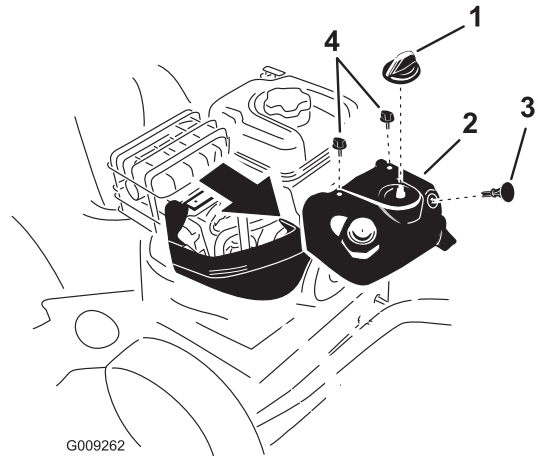

Figure 47
Note: To access the spark plug, you must first remove the upper snow hood (Figure 47).
1. Remove the choke knob and the ignition key (Figure 47).
2. Remove the 2 screws that secure the upper snow hood to the machine (Figure 47).